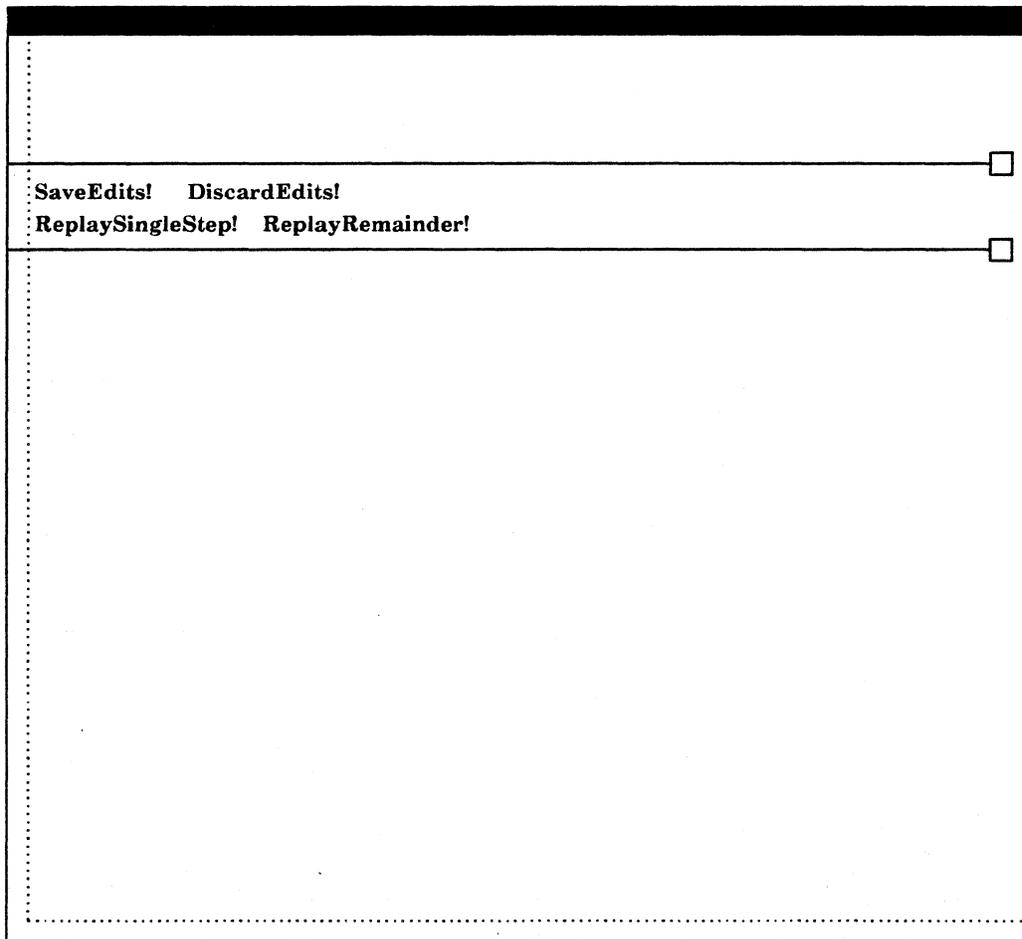

Figure 2.46
- 2) Select **Recreate Edits** in the Document Operations Menu, or press the key marked **AGAIN**. The system displays the schematic window. The schematic appears as it did before you began your last editing session (figure 2.46).